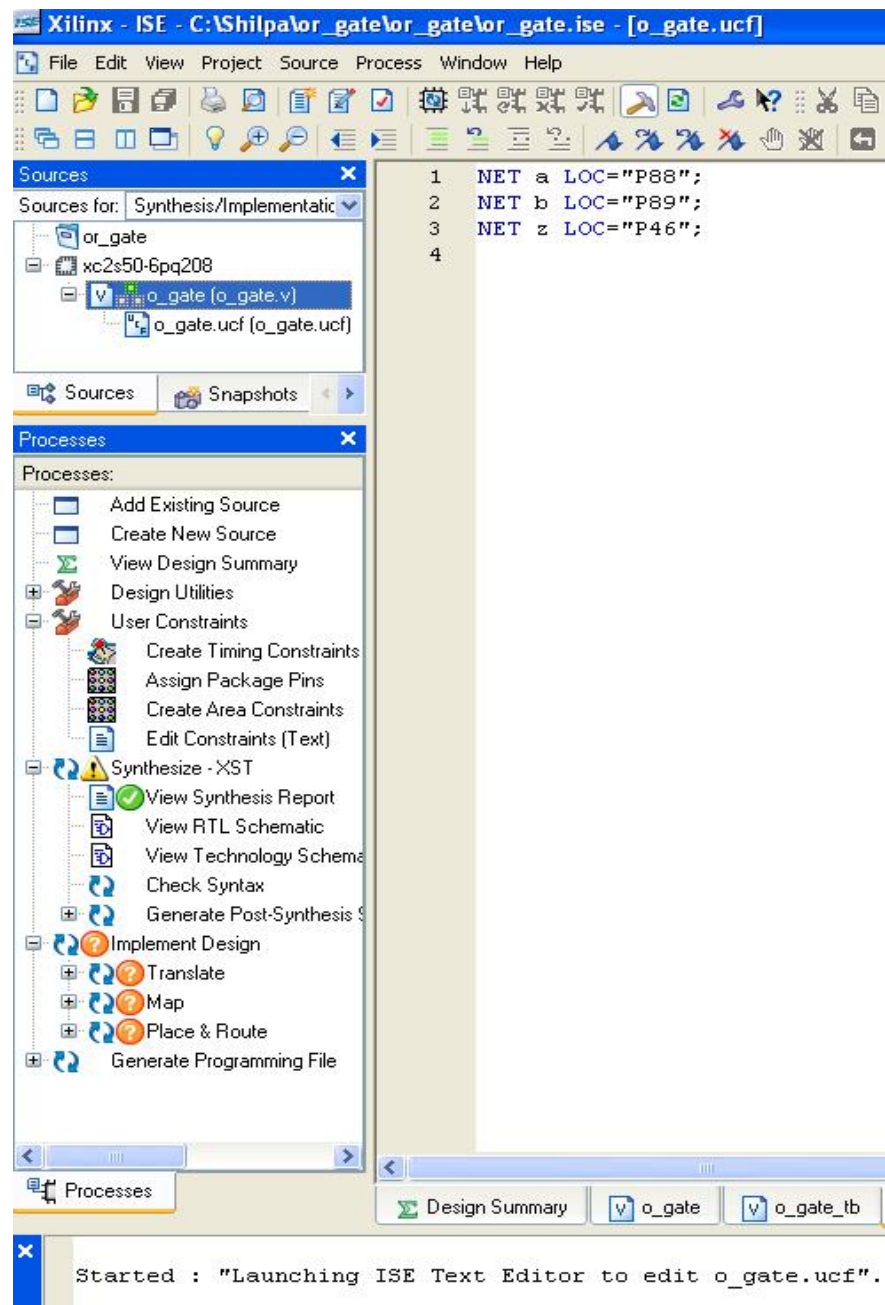

Figure 13 : User Constraint File (snapshot from Xilinx ISE software)
- Assign pin numbers to the input and output pins in the Verilog design file using a "User Constraint File(ucf file)". The pin numbers can be assigned by looking at section 7 of this tutorial. Then save the design file and implement the design again. *Note that you can assign pin numbers only to top-level Verilog file.* Then the Project Navigator window looks as shown in Figure 13.